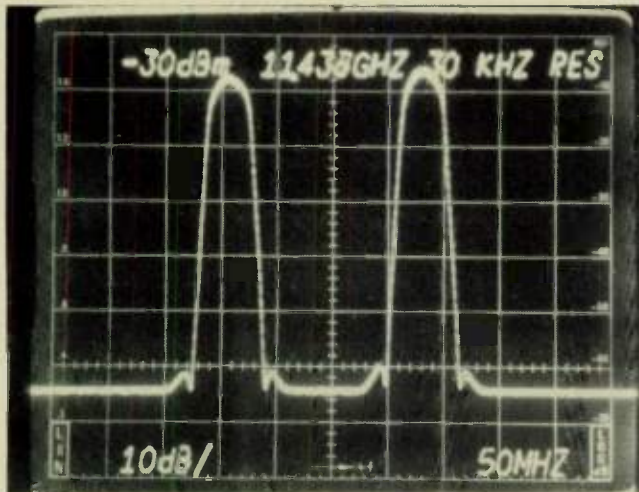
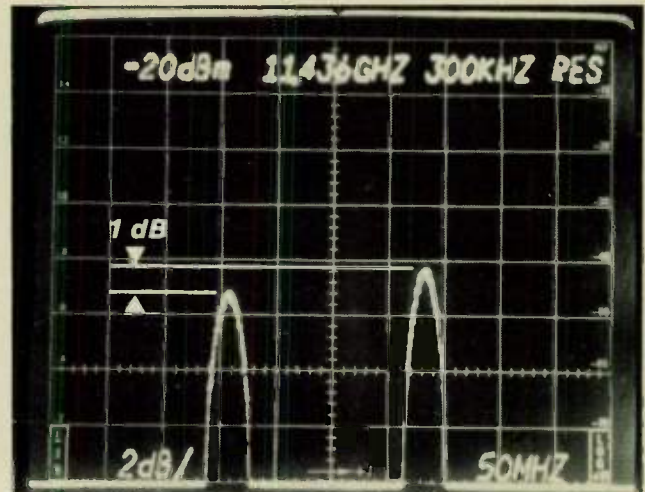

Fig. 7 Two digital radio signals on the same antenna.
Fig. 8 Same as Fig. 7, showing an amplitude difference of 1 dB between the two signals.
**Multiple-Carrier Level Balance:** Figure 7 shows two digital radio signals transmitted on the same antenna. Although these signals are supposed to be at the same amplitude level, clearly they are not. The use of a vertical display of 2 dB/div., as shown in Figure 8, illustrates an amplitude difference of 1 dB.